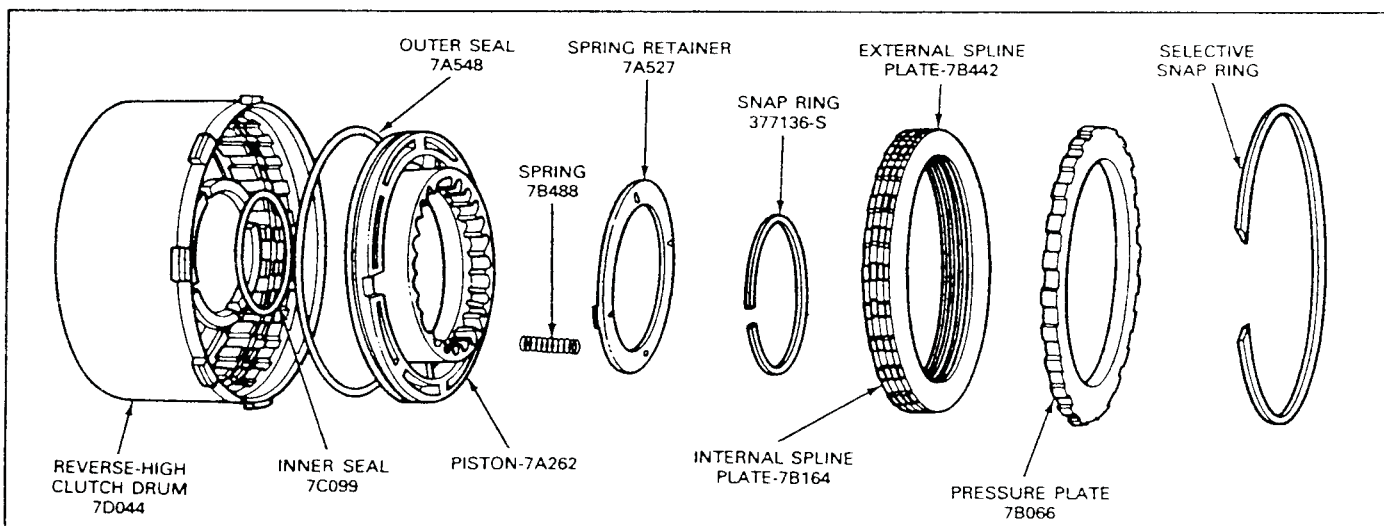

FIG. 40 Reverse-High Clutch Disassembled
2. Remove the pressure plate and the drive and driven (internal and external spline) clutch plates (Fig. 40).